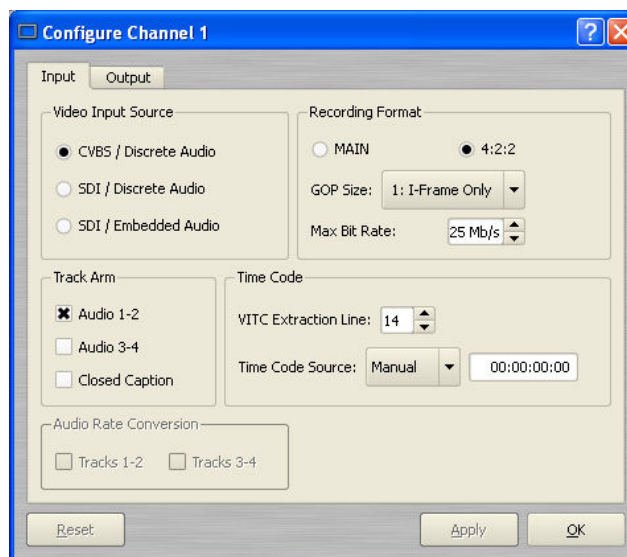

Figure 6 - Channel Configure Dialog
- A. From the main menu bar select **EDIT->CONFIGURE**. The screen of Figure 6 appears. Select the **TIMING** option.
The Dialog of Figure 6 appears. Select the appropriate Video Input source by clicking the related radio button in the **Video Input Source** section of the dialog. Click **APPLY** or **OK**.
This function selects the time code source for newly recorded clips. A time code value is obtained from the selected input source at the start of a new recording. Refer to Figure 6. Choose **VITC**, **LTC** or **Manual** input source. For **MANUAL**, enter the desired time value for the first frame of the recording in the **Starting Time Code** entry field.